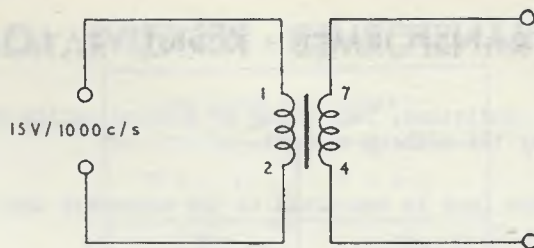

FIG. 3.
**STEP 7.** Connect the circuit as shown in Fig. 3.